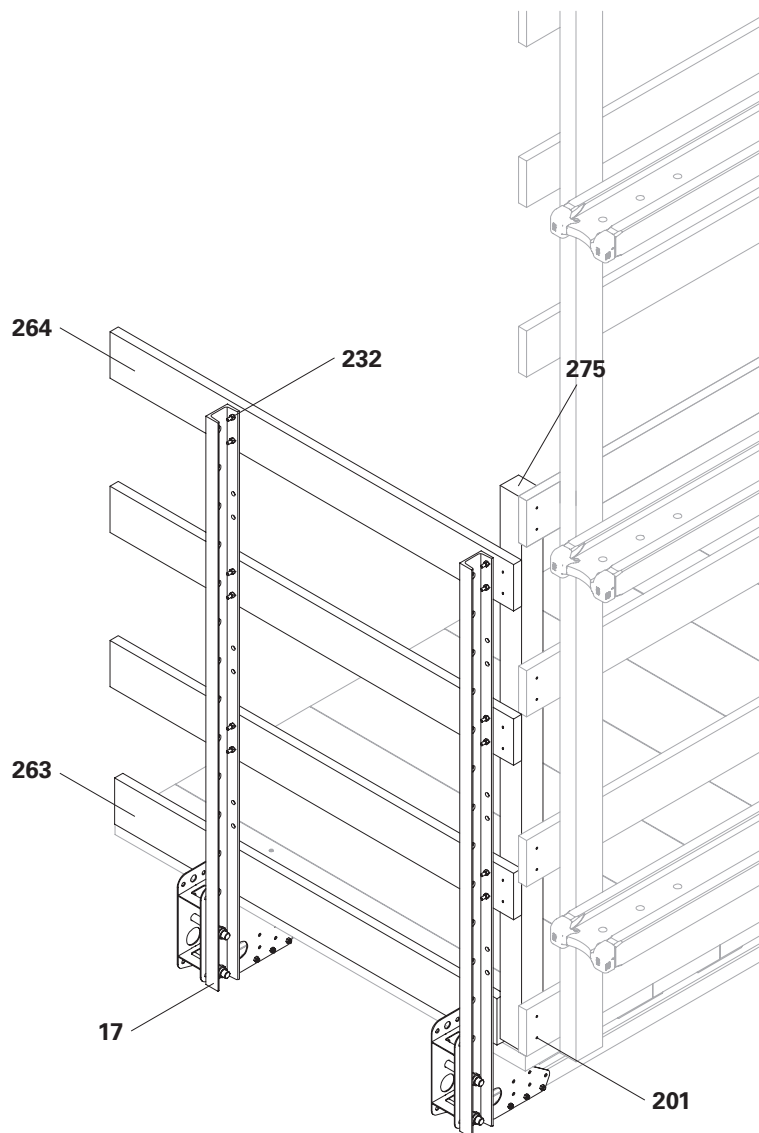

Fig. B11.04
1. Saw a piece of squared timber 8/8 (275) to length. The squared timber must run all the way from the lower edge of the toe board to the upper edge of the ladder cage.
2. Screw squared timber 8/8 (275) with 2x Torx 6 x 60 (201) per board to the ladder cage and toe board.
3. Screw squared timber 8/8 (275) with 2x Torx 6 x 60 (201) per board to lateral protection and toe board.
- (Fig. B11.04)